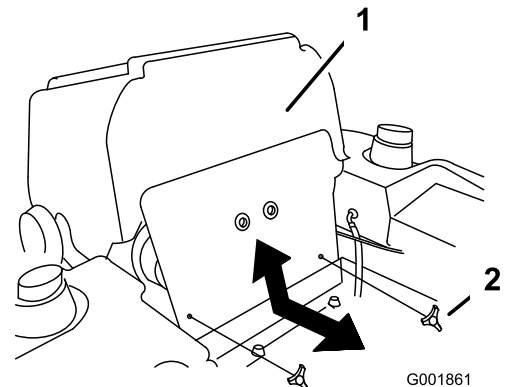

Figure 1
4. Tilt the seat forward and remove the front engine panel (Figure 1).
6. Install the front engine panel (Figure 1).